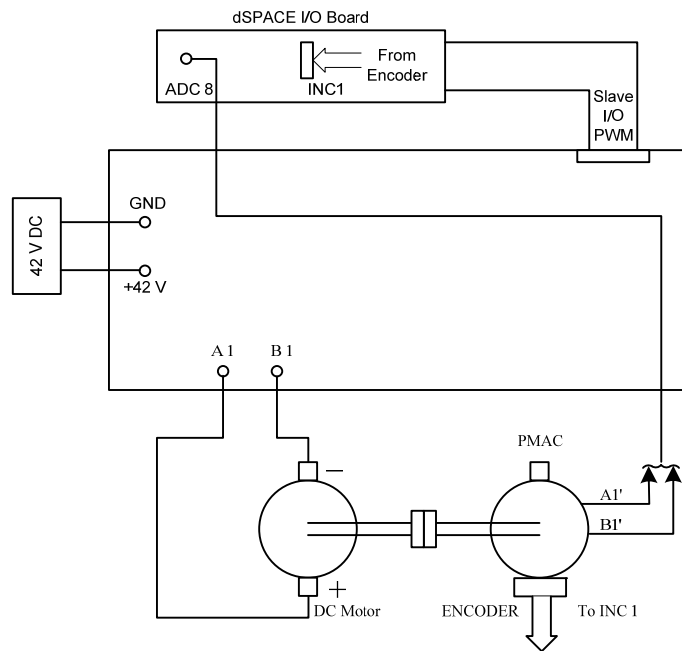

Figure 7.2: Connections for Section 7.3
In this section, the PMAC motor is run as a generator by coupling it to a DC motor as shown in Fig. 7.2.
- Make connections are as shown in Fig. 7.2.